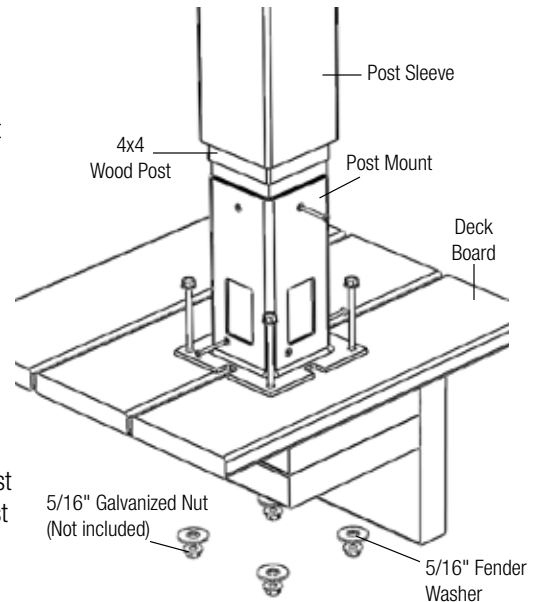

Figure 3
11. Fasten the four bolts underneath the reinforcement boards with the 5/16" Fender washer (included in kit) and 5/16" galvanized hex nuts (not included) (Fig 3).